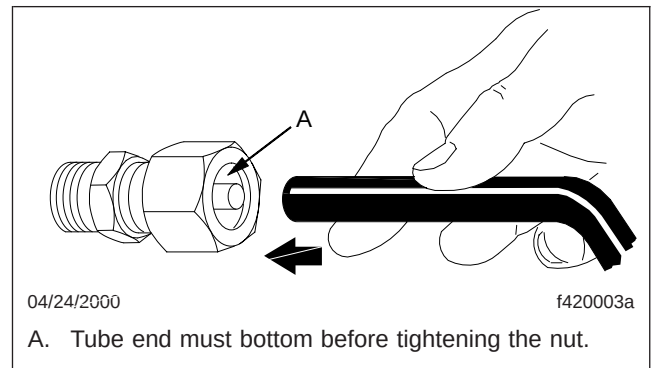

Fig. 3, Installing Nylon Tubing
5. Insert the squared end of the tubing in the fitting, until it bottoms in the body of the fitting. See Fig. 3.